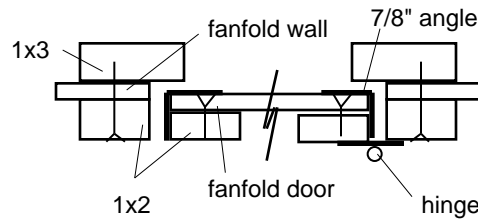

Fig. 9. Door framing
- a. Cut openings in the end walls to frame doors of desired size. Light doors can simply be a 1x2 outer frame screwed to a 1x3 backer to serve as the door jamb (Fig. 9). 7/8" suspended ceiling angle screwed to a 1x2 makes a neat light door edge. This works for both vertically and horizontally hinged (awning) doors, which can be propped open with anything handy, like PVC pipe.